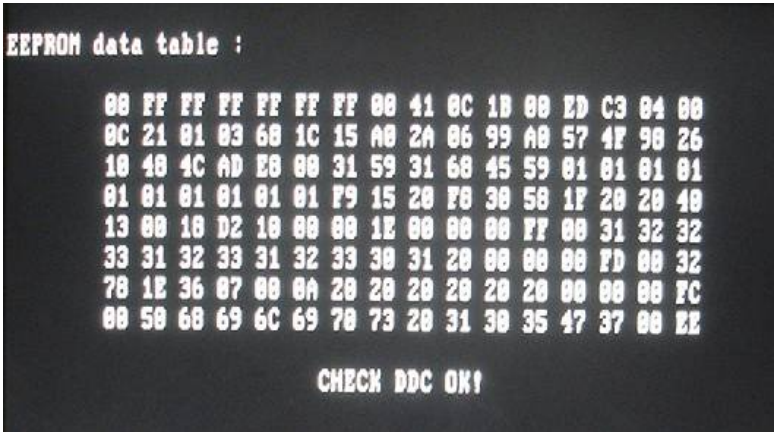

Fig 9
Step 6: Enter into Fig 9.
Disconnect the rotation coil from Main board as shown in Fig. 9